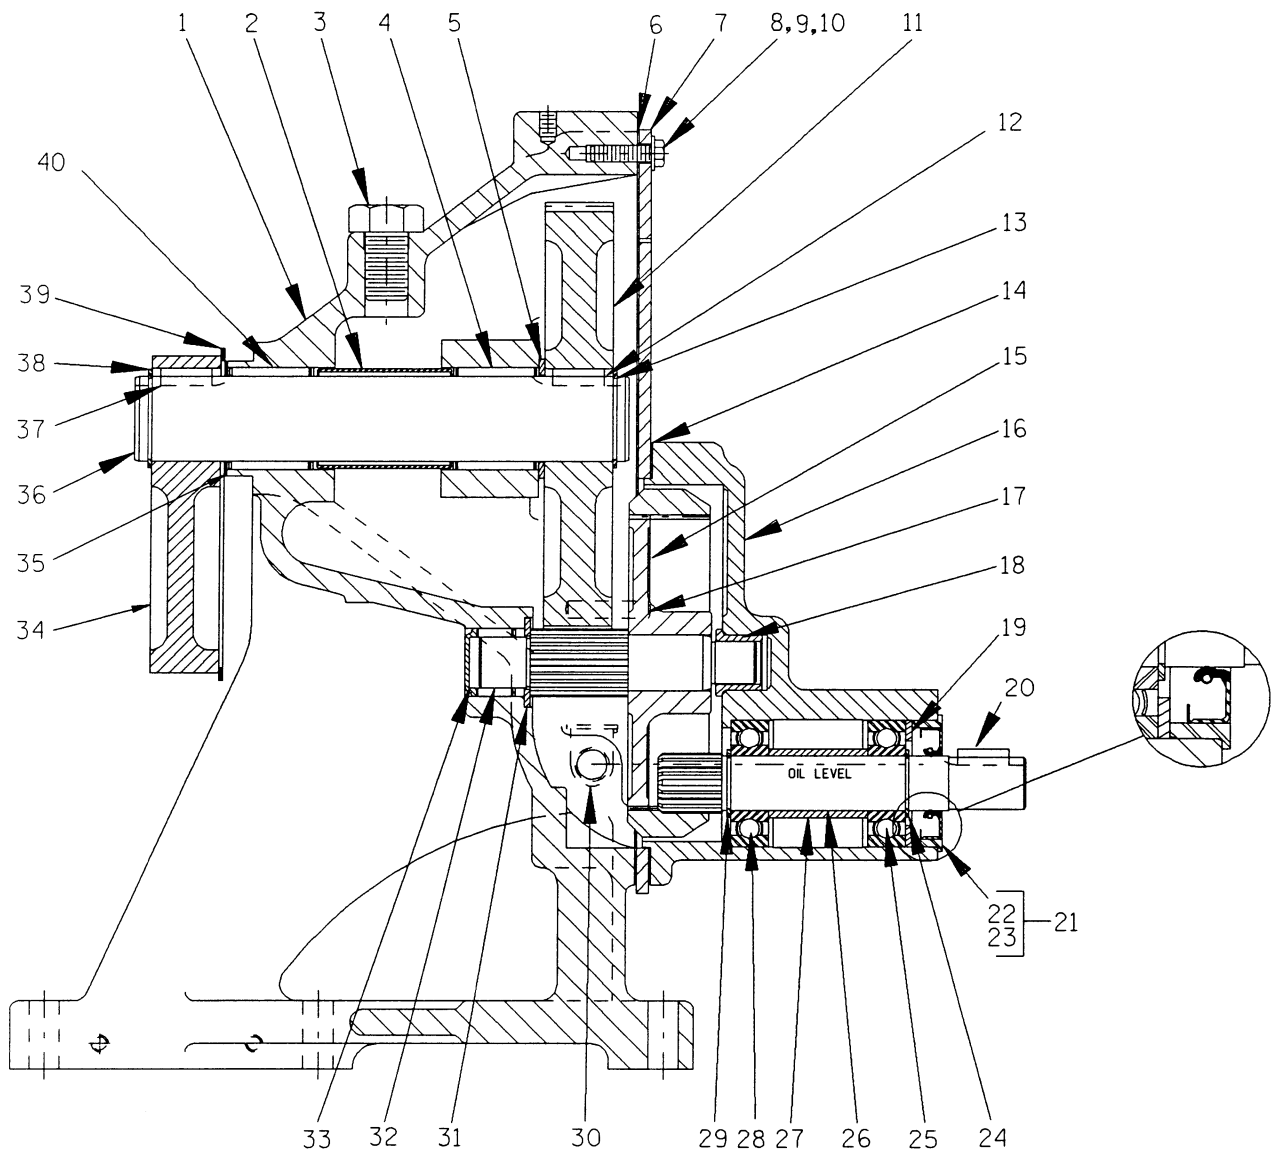

Figure 4. 44161-008 Gearbox Assembly
Removing the retaining ring (6) and slide the plunger rod assembly (26) off the eccentric cam drive shaft (36, Figure 4).
Disengage the hardware (22 and 23) and remove the coupling guard (11). Loosen the hardware securing the coupling (12) and separate the halves. Remove the gearbox assembly, and slide the coupling half off the pinion drive shaft (26, Figure 4).
(Figure 4)